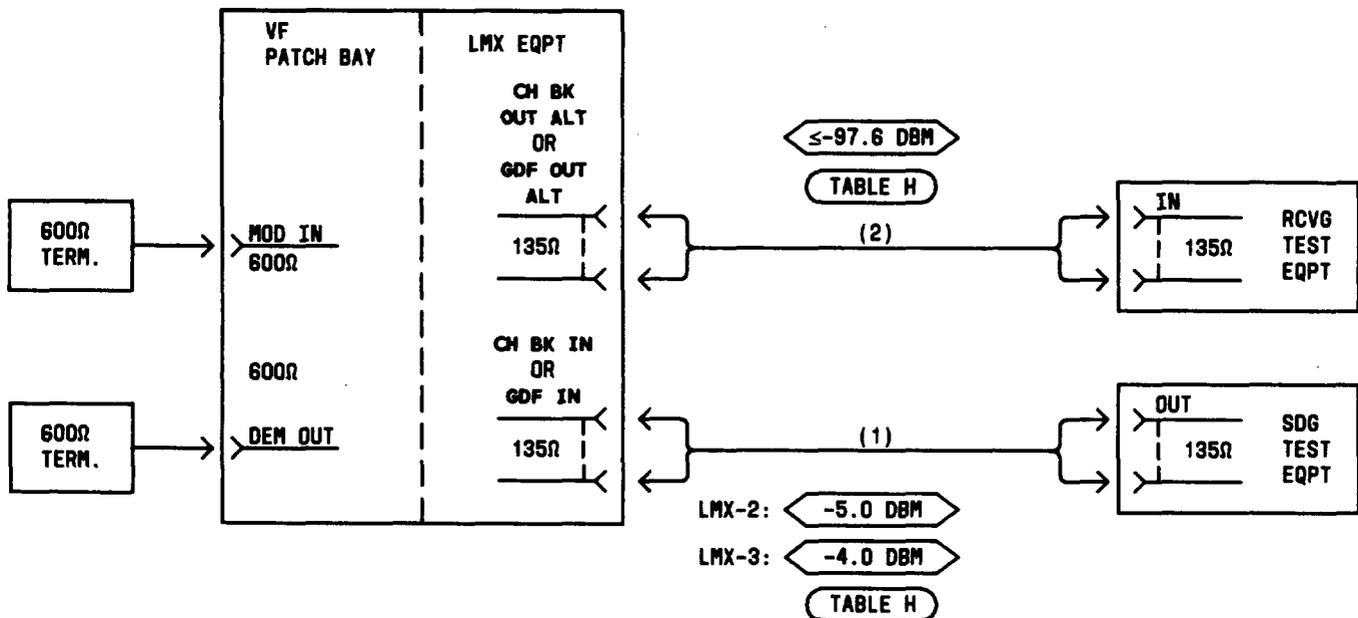

Fig. 13—Patching Diagram—Intrachannel Crosstalk Test
| 12 | Insert 262B plugs in the MOD IN and DEM OUT jacks for the channel under test (Fig. 13). |
| 17 | Remove patches (1) and (2), Fig. 13. |